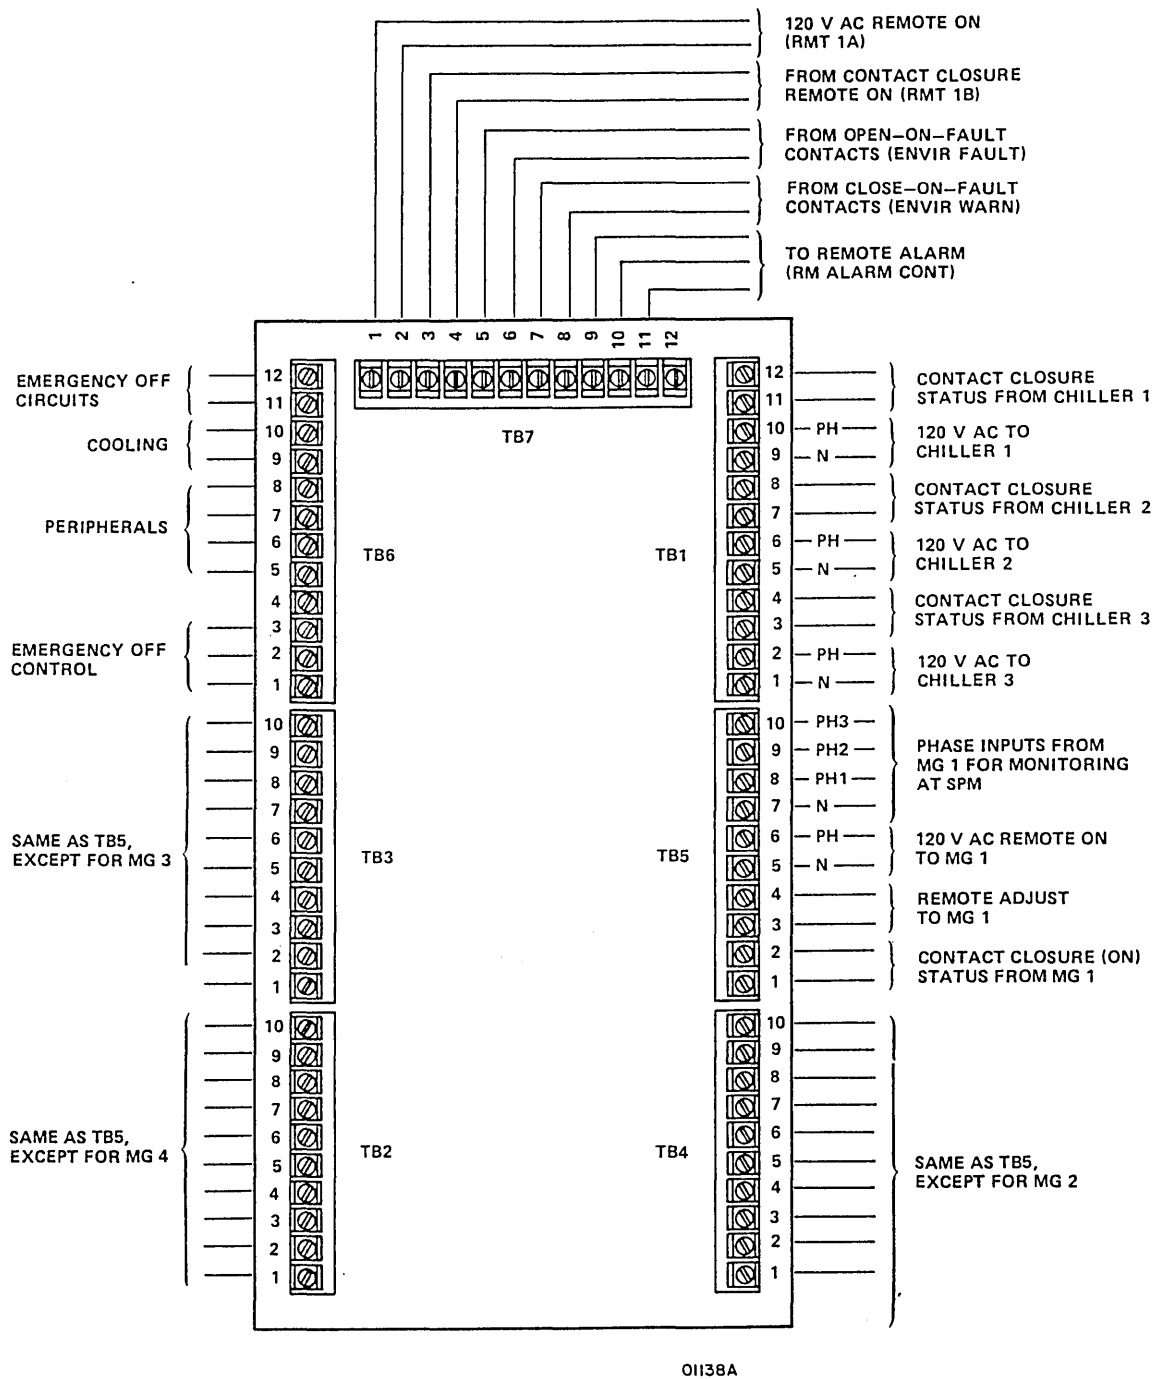

Figure 2-1. A2 Terminal Board Connections in the SPM
- ___ 2. Refer to figure 2-1 for electrical connections to the A2 terminal board in the SPM. More detailed descriptions of these terminal board connections are in the Power Distribution and Warning System manual (publication number 60455920) listed in the system publication index in the front of this manual.